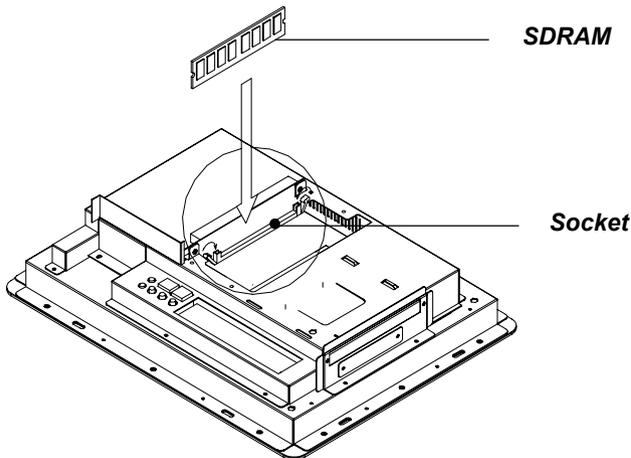

Figure 4-4: Installing SDRAM
2. Push the two white eject levers on each side of the DIMM outward until they are separated from the black vertical posts. (See Fig. 4-4.)